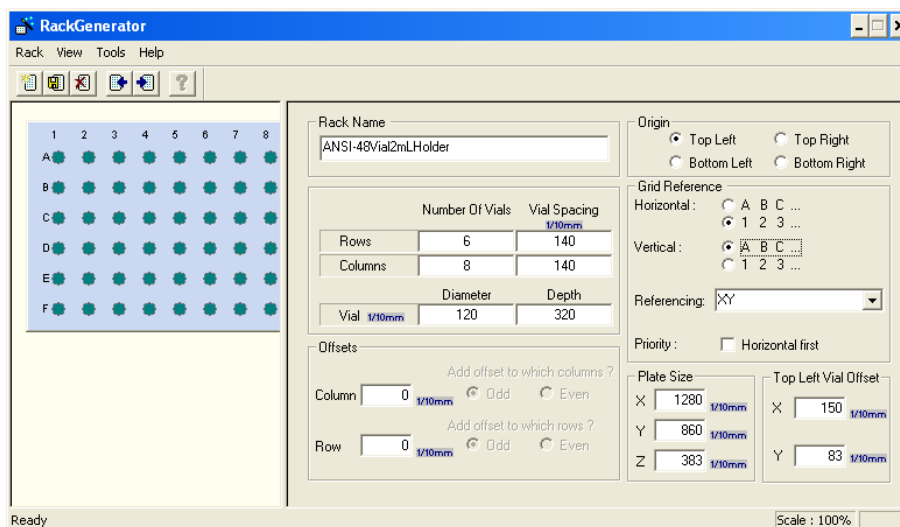

Figure 29 - Rack generator settings (ANSI-48Vial2mLHolder)
4. Enter the parameters as in shown in Figure 29.